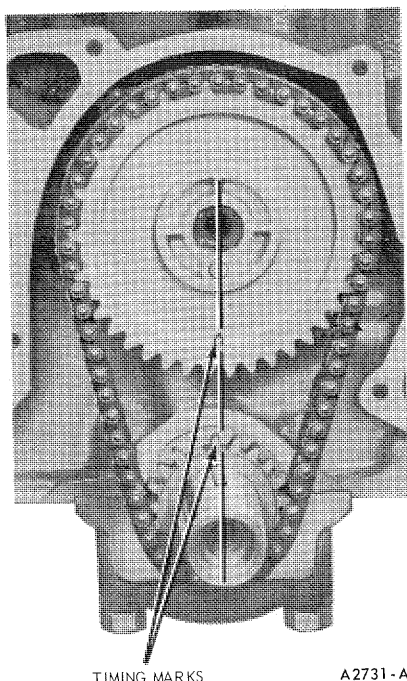
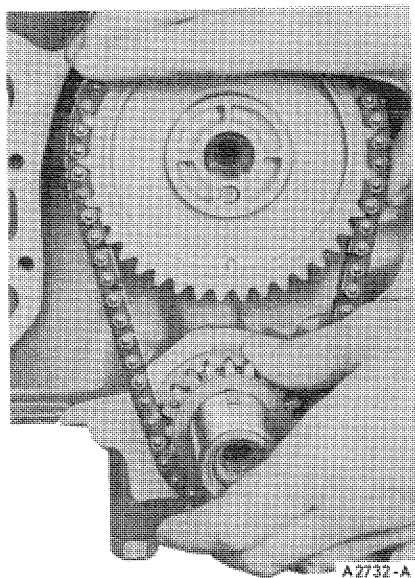

FIG. 51 Aligning Timing Marks
FIG. 52 Removing or Installing Timing Marks
9. Crank the engine until the timing marks on the sprockets are positioned as shown in Figure 51.
10. Remove the camshaft sprocket cap screw, washers and fuel pump eccentric. Slide both sprockets and the timing chain forward, and remove them as an assembly (Figure 52).
1. Position the sprockets and timing chain on the camshaft and crankshaft simultaneously (Figure 52). Be sure the timing marks on the sprockets are positioned as shown in Figure 51.